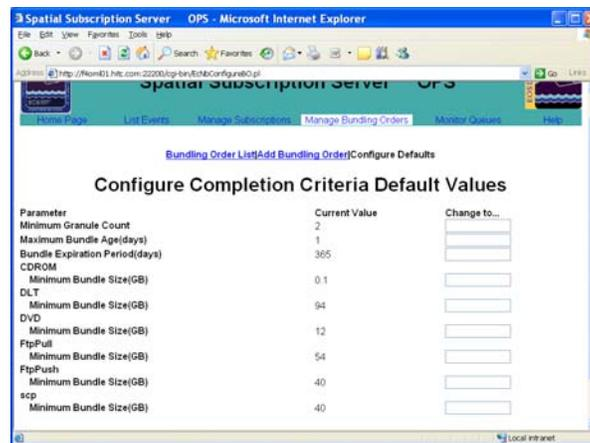

Figure 16.1-16. Configure Completion Criteria Default Values Page (Part 1)
- The **Configure Completion Criteria Default Values** page is displayed (see Figure 16.1-16).